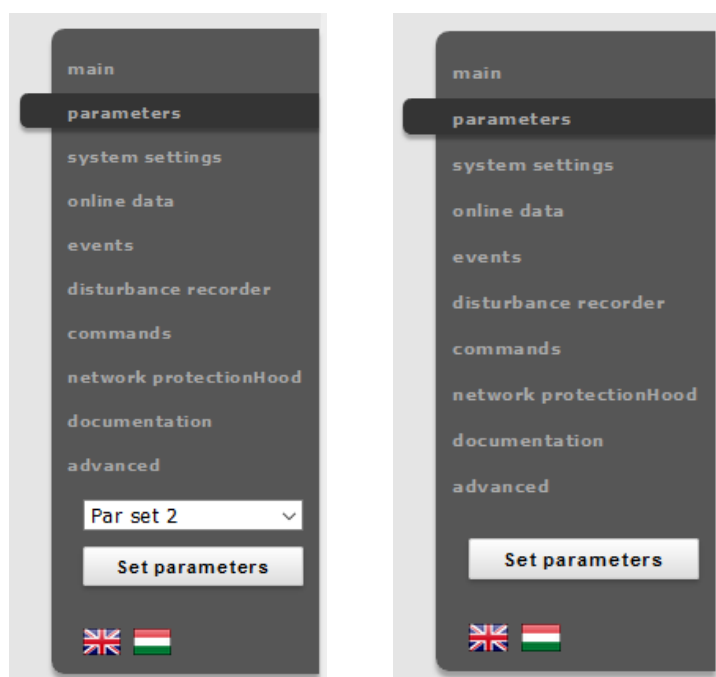

Figure 4-6 Main menu view with and without multiple parameter sets
*Second column* displays the current values of the selected parameter set stored in the device. The parameter set can be chosen from the combo-box of the main menu (see Figure 4-6). Changing the parameter set here doesn't mean activating it, only loading to the fields. You can find more information on activation in this chapter later.
Modified parameter values can be written into the selected parameter set by clicking Set parameters button on the main menu panel. In case of a device with only one parameter set there is no parameter set selector combo-box, as it can be seen on the right side of Figure 4-6.
Note, that activating a parameter set doesn't load the values to the edit fields above. Parameter set values can be loaded into the editable fields by using the combo-box placed in the main menu panel on the left side (see Figure 4-6) or by clicking on the Load to editor button.